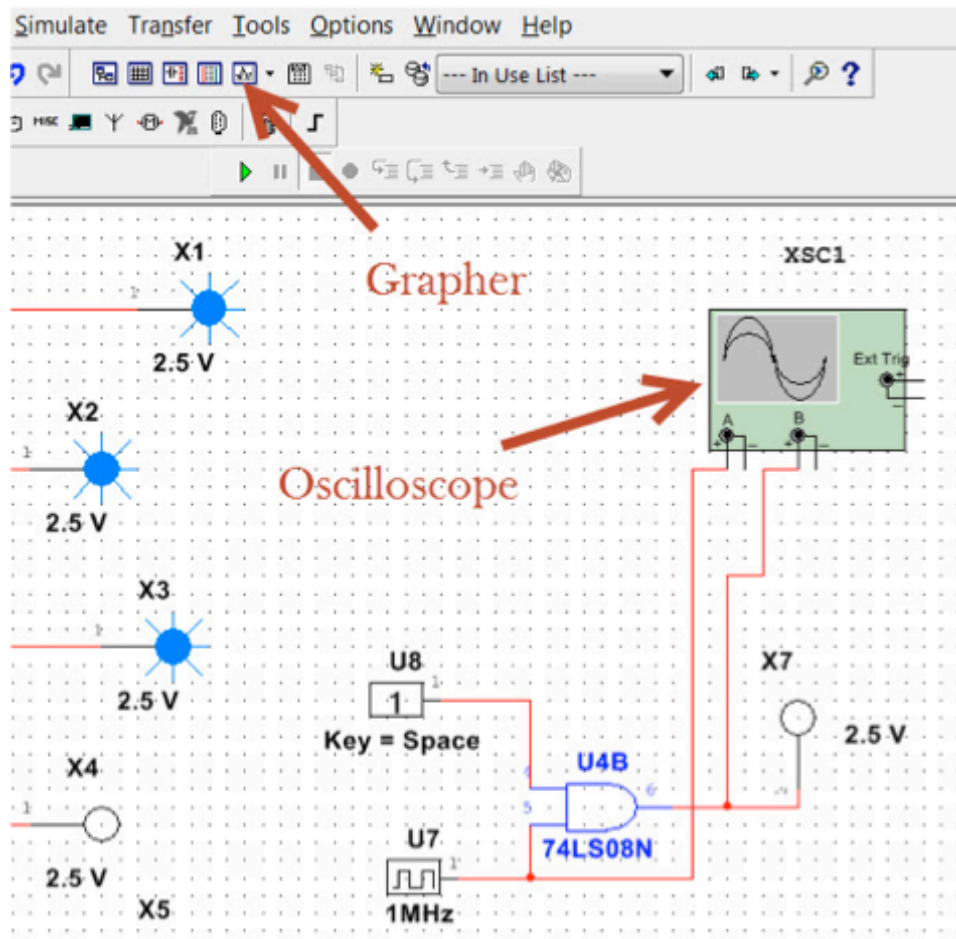

Figure 16
- 5) Create another circuit using a dual input AND gate with one input going to a logic switch and the other going to a clock. Connect the output to an indicator probe and adjust the clock for 10MHz. Also add an Oscilloscope to your diagram. Run the simulation and set the switch to allow the clock signal to be reflected on the output. Double-click on the Oscilloscope icon and set the Timebase Scale to 20ns/div. Set the Trigger to Normal with a negative going edge (see figure 16). Observe the circuit's built-in delay using the output-timing diagram (waveforms) as described in class.